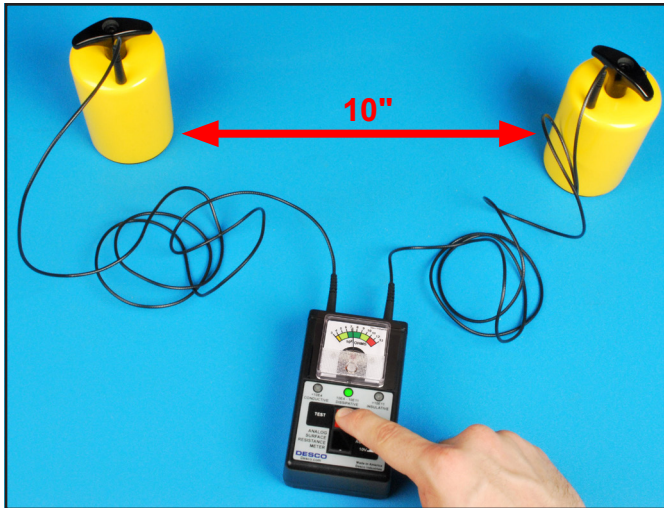

Figure 4. Using the test leads and two 5 pound electrodes to measure RTT of worksurfaces (place electrodes 3 feet apart for flooring)
5. Set the Test Voltage Button to AUTO. Press and hold the TEST button until the measurement is displayed (see Figure 4).